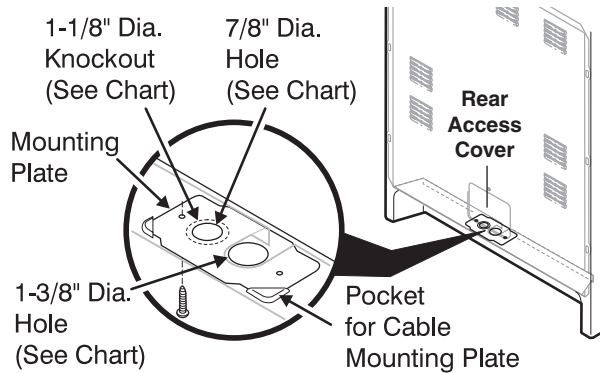

Fig. 9
See range connection opening size chart (Figs. 9 & 10) for cord kit ampere rating information. Terminals on end of wires must be either closed loop or open-end spade lugs with upturned ends.
The Rear Access Cover must be removed (Fig 9). To remove, loosen center screw (one screw) and remove cover. The terminal block will then be accessible.
**NOTE:** Range is shipped from factory with 1-3/8" dia. hole as shown. To use either 7/8" dia. hole or 1-1/8" dia. knockouts refer to Fig. 9.
- Follow the manufacturer's installation instructions supplied with the strain relief and install (Also see Figs. 9, 10 & 11).
- Make sure all screws are tightened securely and replace the rear access cover (See Fig. 9).
1. Follow the manufacturer's installation instructions supplied with the strain relief and install (Also see Figs. 9, 10 & 11).
3. Make sure all connections are tightened securely and replace the rear access cover (See Fig. 9).